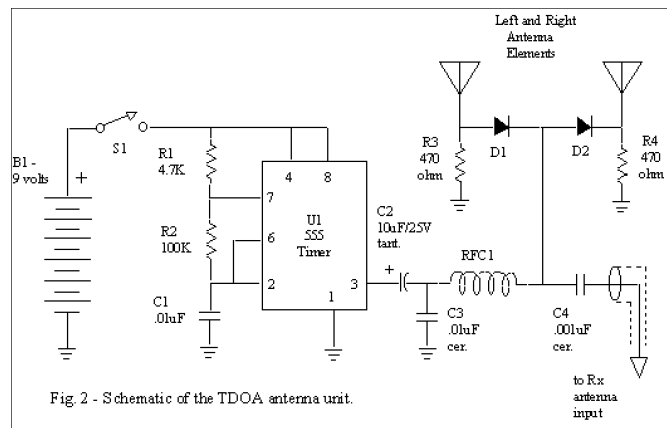

Fig. 2 - Schematic of the TDOA antenna unit.
You can build a simple TDOA unit in an evening or two for about \$10 or less (depending on the size of your junk-box). The circuit, shown in Fig. 2, is based on one in an article by Paul Bohrer (ref 1). U1 is a 555 timer powered by a 9V battery, oscillating at about 1 kHz. R1, R2 and C1 determine the frequency of oscillation.